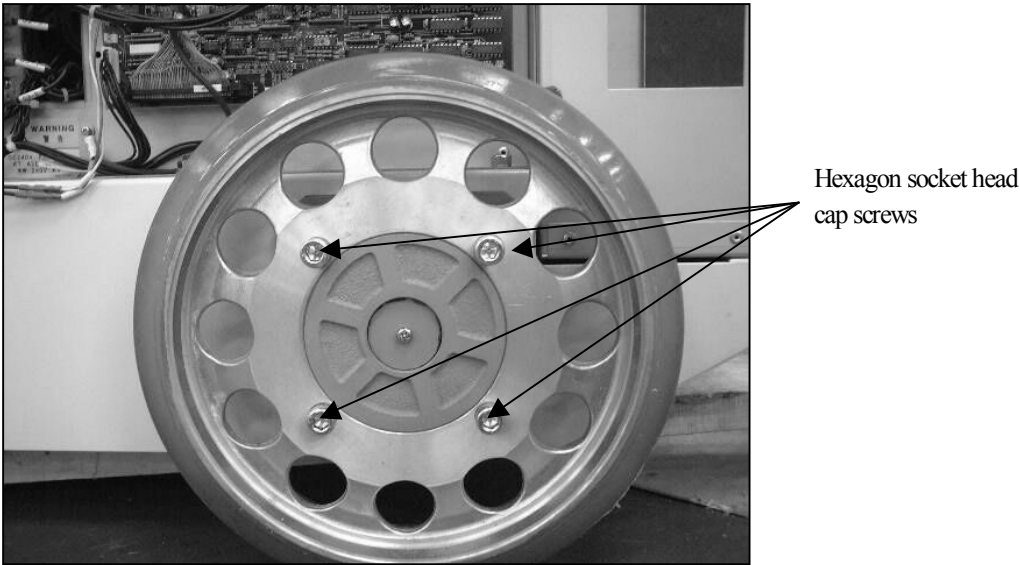

Fig. 6-56 Loosen the Fixing Bolts of the Wheel
10. As shown in Fig. 6-56, loosen the hexagon socket head cap screws that fix the wheel.